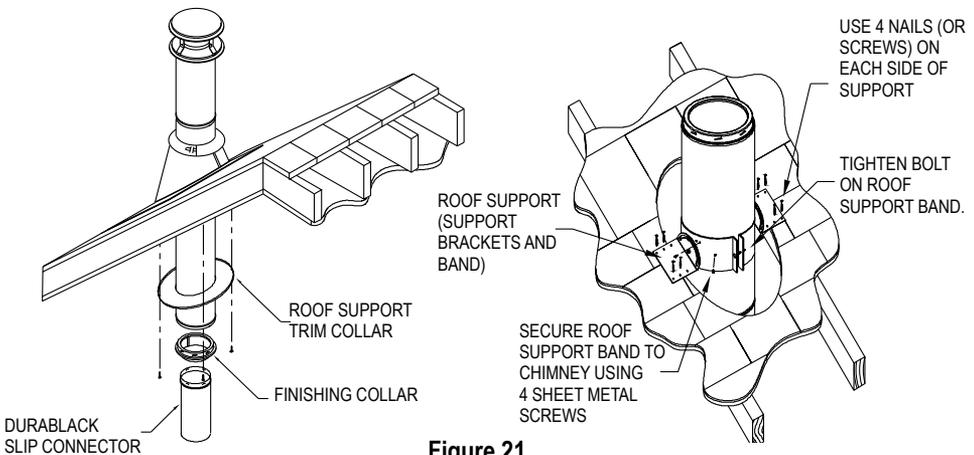

Figure 21
Roof Support allows the DuraTech chimney to come down into the room below the level of the ceiling (**Fig 21**). The Roof Support can support a maximum of 45 feet of DuraTech Chimney total, and maximum of 20 feet below the support. If a taller stack of DuraTech Chimney is required, you must use a Square Ceiling Support Box instead.
2. Bolt on the Roof Support Brackets to the Roof Support Band using the supplied hardware. Attach the Roof Support Brackets to roof using (4) 8 penny nails or (4) #8, 1-1/2" screws per side (**Fig 21**).
5. Slide Trim Collar over the DuraTech Chimney and attach the Trim Collar to the ceiling using (4) 1-1/4" screws provided (**Fig 21**).
3. Determine how much DuraTech Chimney will be extending into the room (minimum of 3" below the framing), and attach the of the Roof Support Band to the Chimney Section by tightening the Bolt, and secure it by using (4) supplied sheet metal screws (**Fig 21 & 22**).